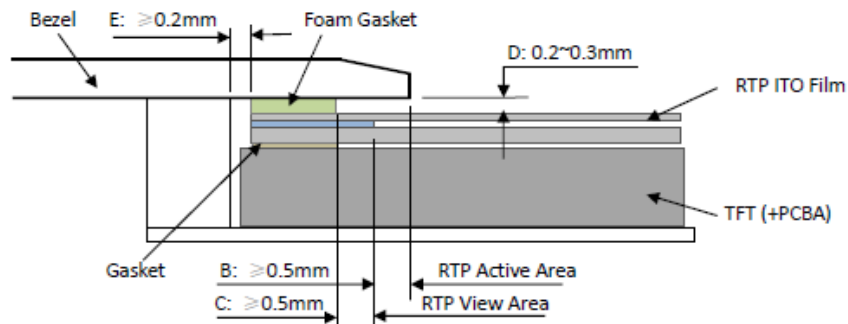

Figure 4
- It should bezel touching the RTP Active Area (A.A.) to prevent abnormal touch.It should left gab $D=0.2\sim 0.3\text{mm}$ in between. (Figure 4)
- Outer bezel design should take care about the area outside the A.A. Those areas contain circuit wires which is having different thickness. Touching those areas could deform the ITO film. As a result bezel the ITO film be damaged and shorten its lifetime. It is suggested to protect those areas with gasket (between the bezel and RTP).The suggested figures are $B\geq 0.50\text{mm}$; $C\geq 0.50\text{mm}$. (Figure 4)
- The bezel side wall should keep space $E= 0.2 \sim 0.3\text{mm}$ from the RTP. (Figure 4)
为避免面框直接压在动作区 (A. A.) 上造成误动作，面框与电阻触摸屏 (RTP) 之间应留有一定的空隙 $D=0.2\sim 0.3\text{mm}$ 之间。(附图 4)
设计面框时，要注意用面框保护触摸屏四周的非保证操作区域，因为布线区域在此处形成一台阶，在此区域附近操作时 ITO Film 变形较大，容易导致 ITO 损坏而降低寿命。为保护 RTP 和避免误操作，在 RTP 与面框之间垫缓冲物 (Gasket)，我们建议设计面框应覆盖动作区的边缘，面框边缘到 V. A. 区的距离 $B\geq 0.50\text{mm}$ ；垫圈内边缘到 V. A. 区的距离 $C\geq 0.50\text{mm}$ 。(附图 4)
在设计面框与 RTP 组装时，应考虑到面框内侧与 RTP 外侧的间距 $E\geq 0.2\text{mm}$ 。(附图 4)